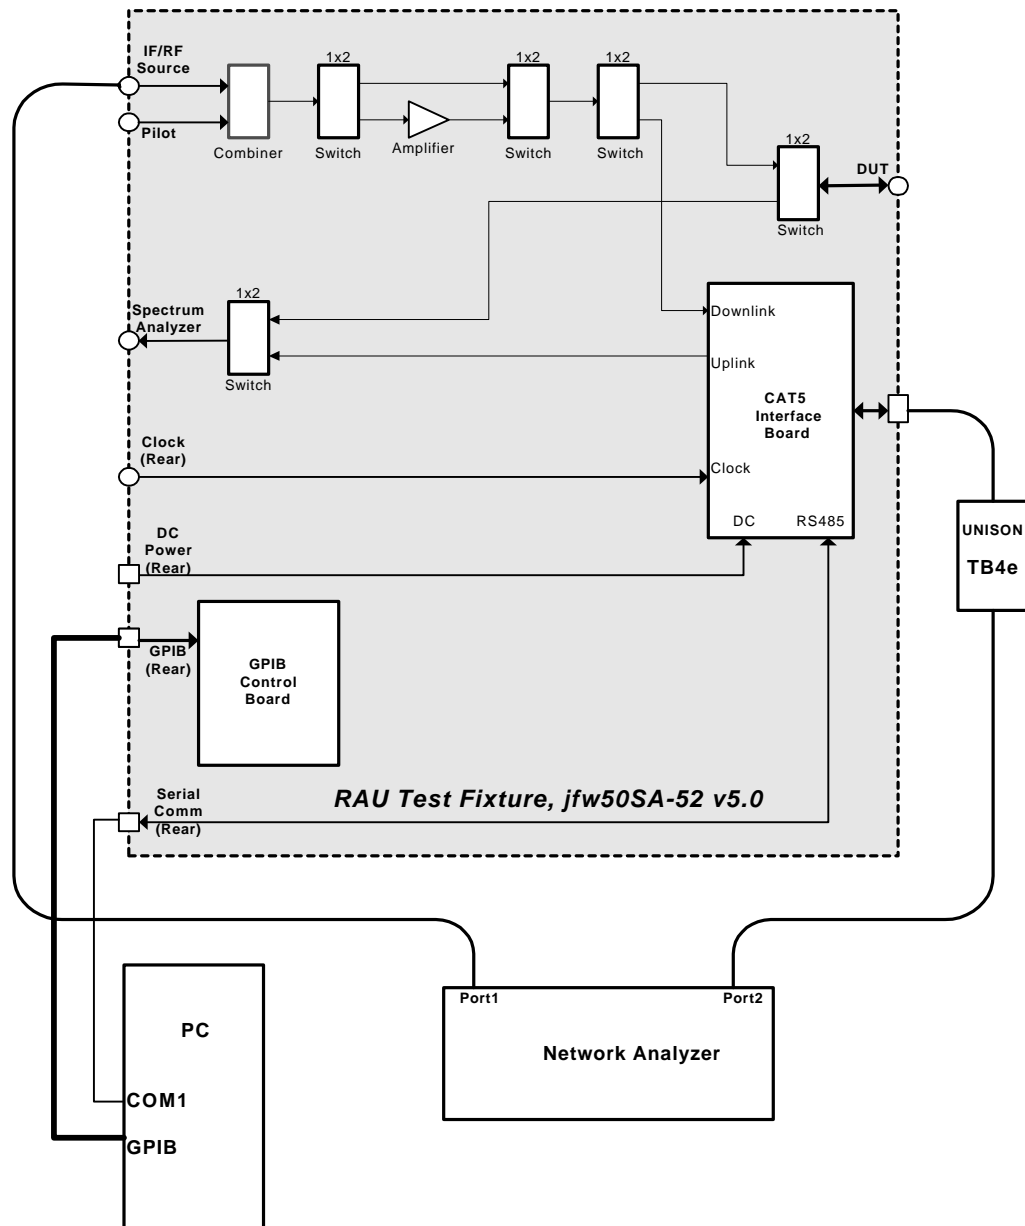

Figure 11; Test Fixture Calibration Connection Diagram
- 1) Remove the Test Fixture from the ATE and connect proper path in Table 4 such as in Figure 11.